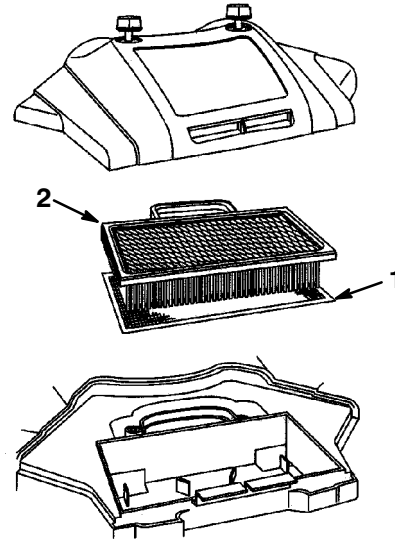

Figure 30
4. Lift out the paper cartridge and the foam element (Fig. 30).
1. Foam Element (Fig. 30):
2. Paper Element (Fig. 30):
3. Replace the air cleaner cover and knobs (Fig. 30). Tighten the knobs snugly.